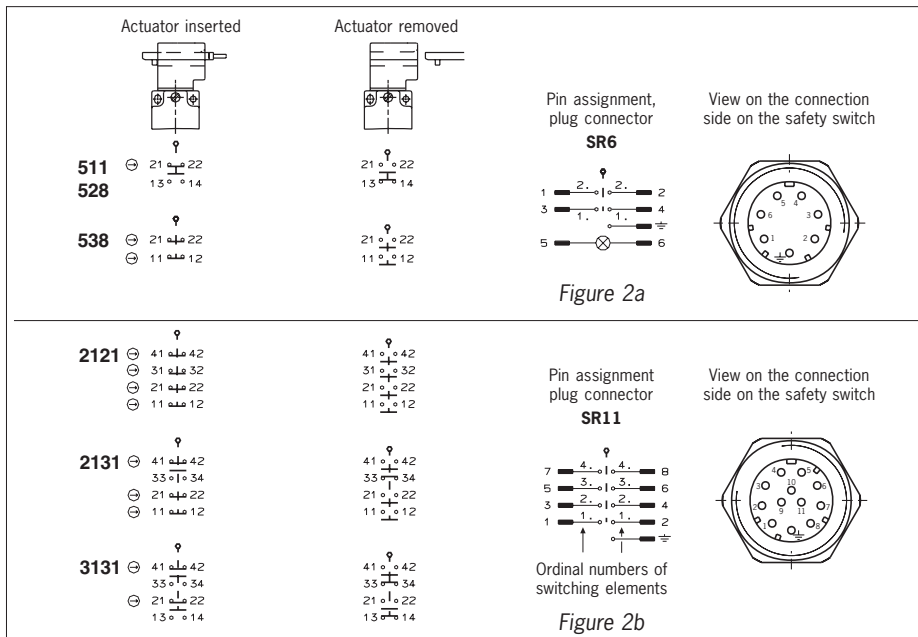

Figure 2: Switching elements with switching functions and pin assignment
- ▶ For pin assignment see Figure 2.